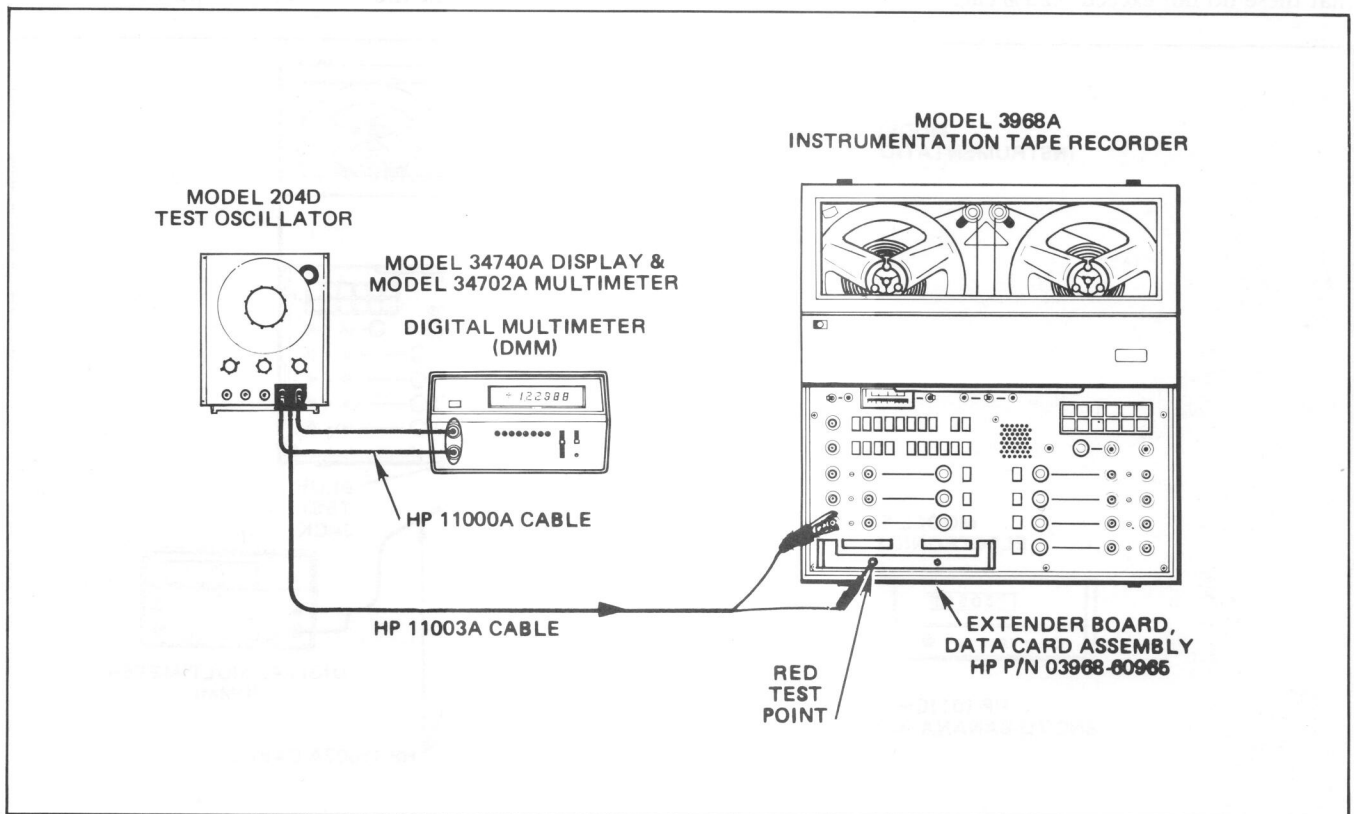

Figure 5-13. Meter Accuracy Test Setup
- c. Remove the channel 4 PCA (location A14) and replace with large extender card assembly (03968-60965) (see Figure 5-13).
- h. Connect the test oscillator output to the DMM input and simultaneously to the red test jack (meter input circuit) on the extender assembly. Connect the oscillator LO output to a convenient BNC shell (see Figure 5-13).
no. 03968-60965) as shown in Figure 5-13. The blue test jack is connected to the bus line distributed to all of the data PCA's. Connect the HI input of the electronic counter to this blue jack and the LO to the COMMON test point on the Interconnect PCA A24 or to the shell of an INPUT jack on a data PCA. Calibrator adjustments are as follows:
e. Remove one data PCA and install extender board 03968-60965 in its place (see Figure 5-13).